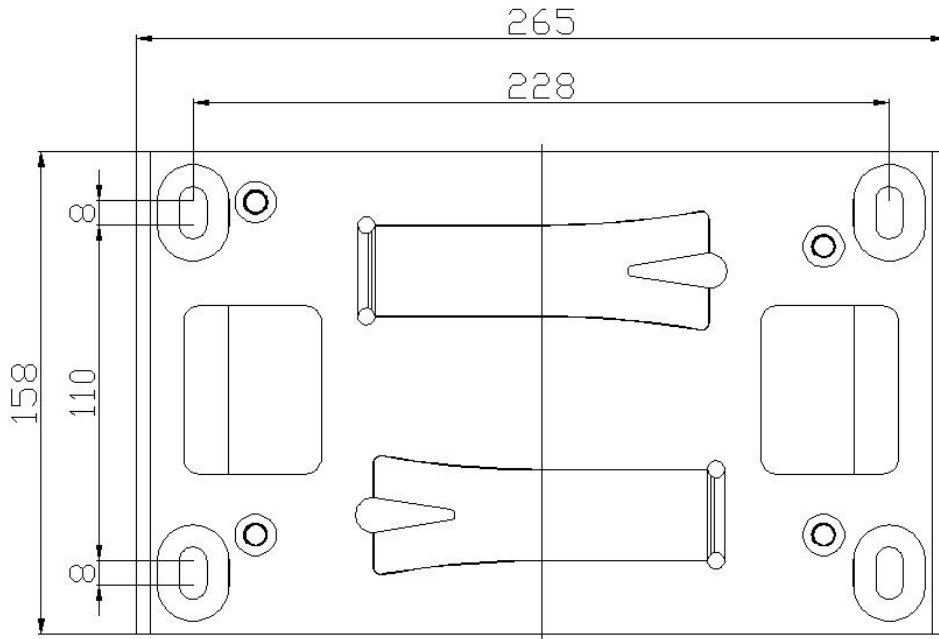

Figure 8
- Put the mounting base plate into a suitable position (The center line of rack and drive gear should be roughly on a line, as in Figure 8.), mark it well; use a 12mm concrete drill bit to make holes and tap the M8 expansion bolts into the punched holes, with the top exposed for about 2cm. (Customers can prepare their own M8 ground screws instead of expansion bolts and bury them on the concrete basis.)